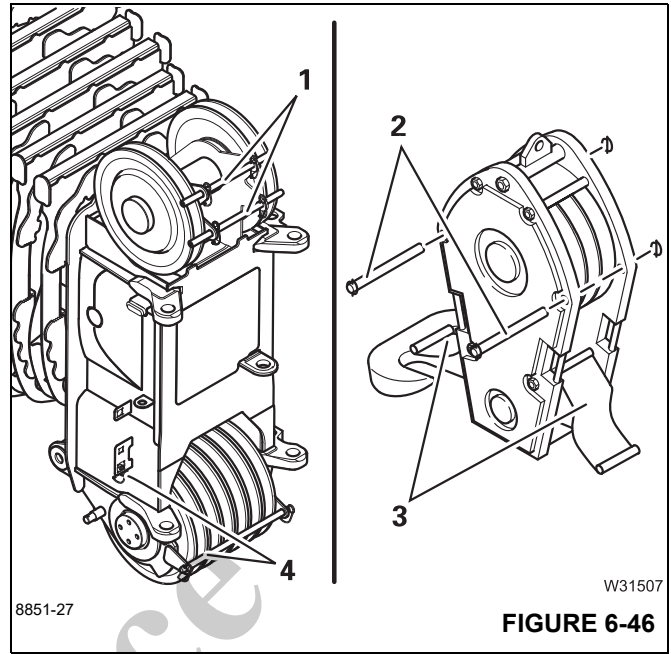

FIGURE 6-46
Refer to (Figure 6-46).
- Pull out the rods (1) and (4), (Figure 6-46).